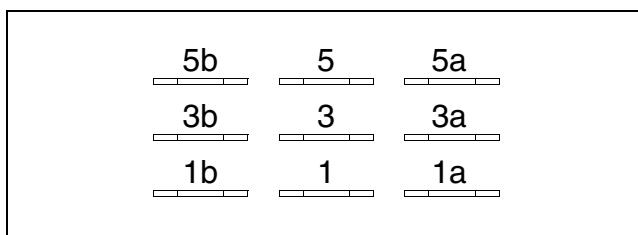
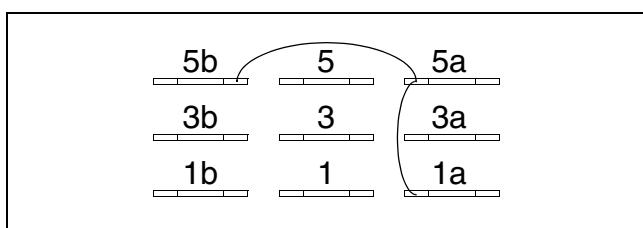

Figure 3
Figure 12
5. Install or remove jumpers to achieve the desired cycle time. *Figure 3* through *Figure 12* illustrate the possible combinations.
Removing all the jumpers from 1a extends the cycle time, making it as long as possible. Refer to *Figure 3*.
This configuration shortens the prewash step from four minutes to two minutes and shortens the final spin time from four minutes to two minutes. Refer to *Figure 12*.